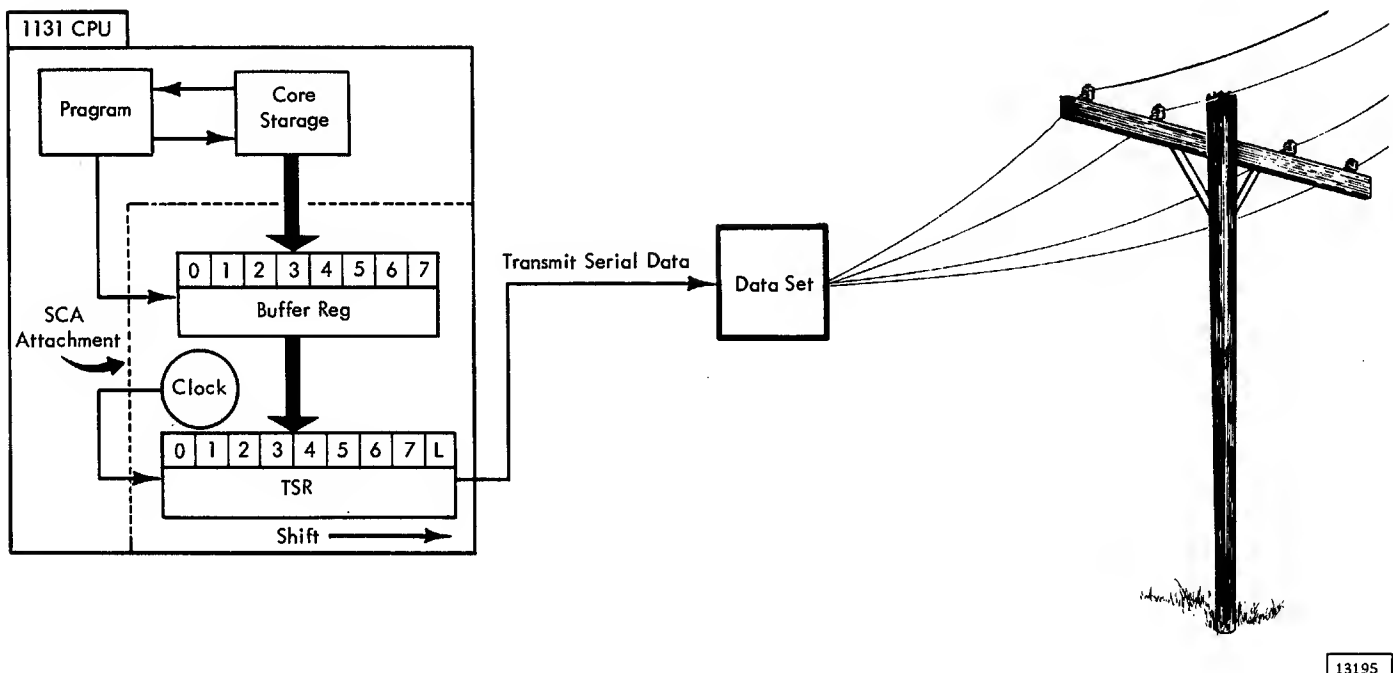

Figure 6-5. Transmit Operation
- Data flow for transmit operations is shown in Figure 6-5.